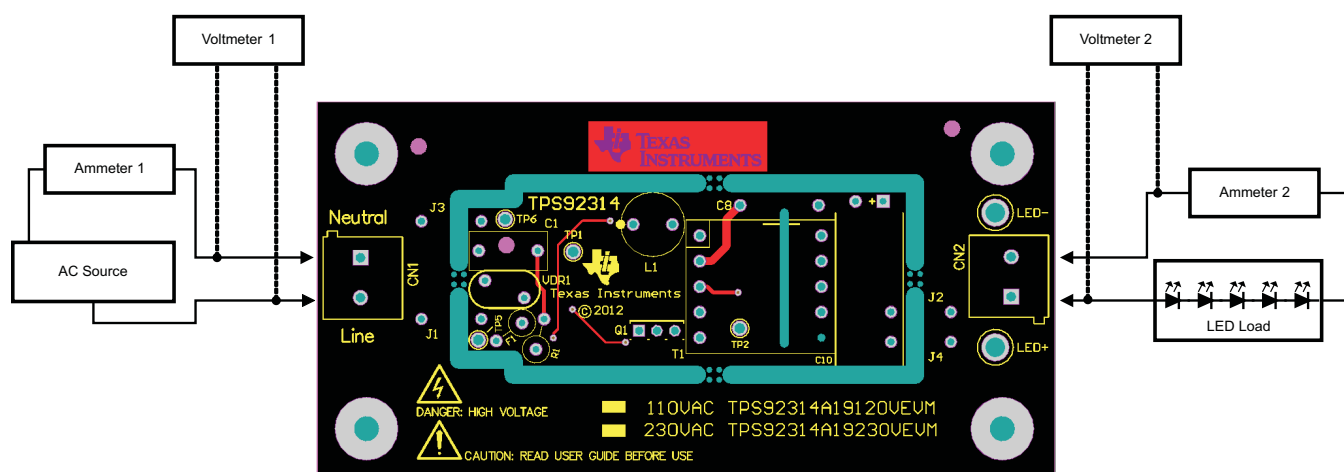

Figure 2. Recommended Test Setup
1. Connect EVM per Figure 2 above. An external LED load must be used to start up the EVM.